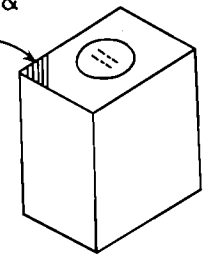

FIG 2
**BLACK WIRE** Ground connection, negative (not the transceiver case). A handy point is to solder the wire to one of the screening cans (Fig 2).
2 WITHOUT A CIRCUIT DIAGRAM a) PTT or transmitter connection Set the transmitter up into its normal operating position, with aerial power supply etc. Disconnect the power supply, remove the lower case half (the side with the speaker grill in). Using a knife or small file scrape away a small portion of plating from one of the cod screening cans near to the mic socket. **TAKE CARE** (Fig 2) Using a 25W. or larger soldering iron, solder a 6 inch length of insulated wire (provided) to the screening can. For the next step you will need to monitor your transmitter output. An SWR meter or another receiver will do. Remove the mic. Reconnect the power and switch on. Using the length of wire, soldered to the screening can, carefully touch each pin on the mic socket in turn. One of the pins when touched, will turn the transmitter on. Mark the pin number onto the instruction sheet. Turn off the power and remove the wire from the screening can. b) Refit mic. Reconnect power and switch on. Hold the bare end of the length of wire and touch the other end onto the mic pins inside the transceiver. One of the pins when touched, will cause a click hum or buzz in the loudspeaker. Mark the pin number onto the instruction sheet.